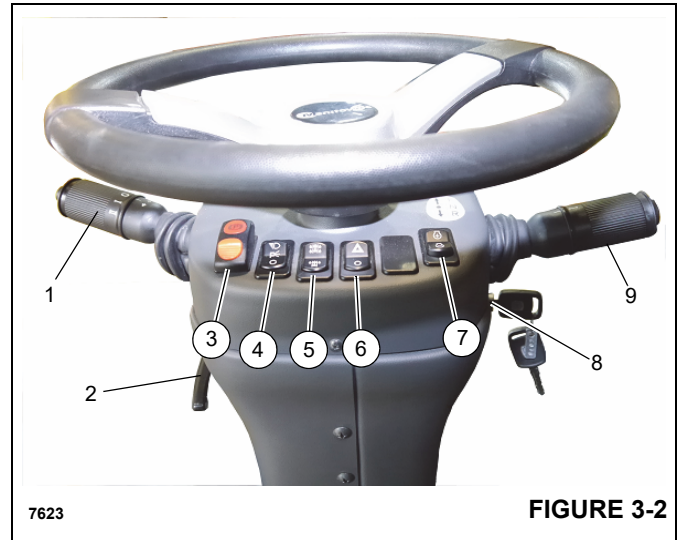

**FIGURE 3-1**
All controls and indicators to operate and monitor crane functions are found inside the crane cab (Figure 3-1).
The steering column assembly (5) (Figure 3-1) is a pedestal style tilt and telescoping steering column. It can tilt rearward 30° or raise vertically 60 mm (2.3 in). It includes the ignition switch and other control switches (Figure 3-2).